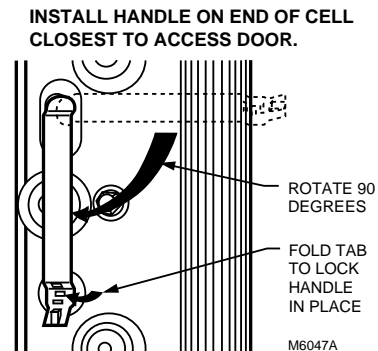

Fig. 17. Install handle on end of cell closest to access door.
2. Hold the handle sideways and insert the solid tab on the back of the handle into the slot in the cell. Turn the handle 90 degrees clockwise to align the divided tab with the square hole. See Fig. 17.